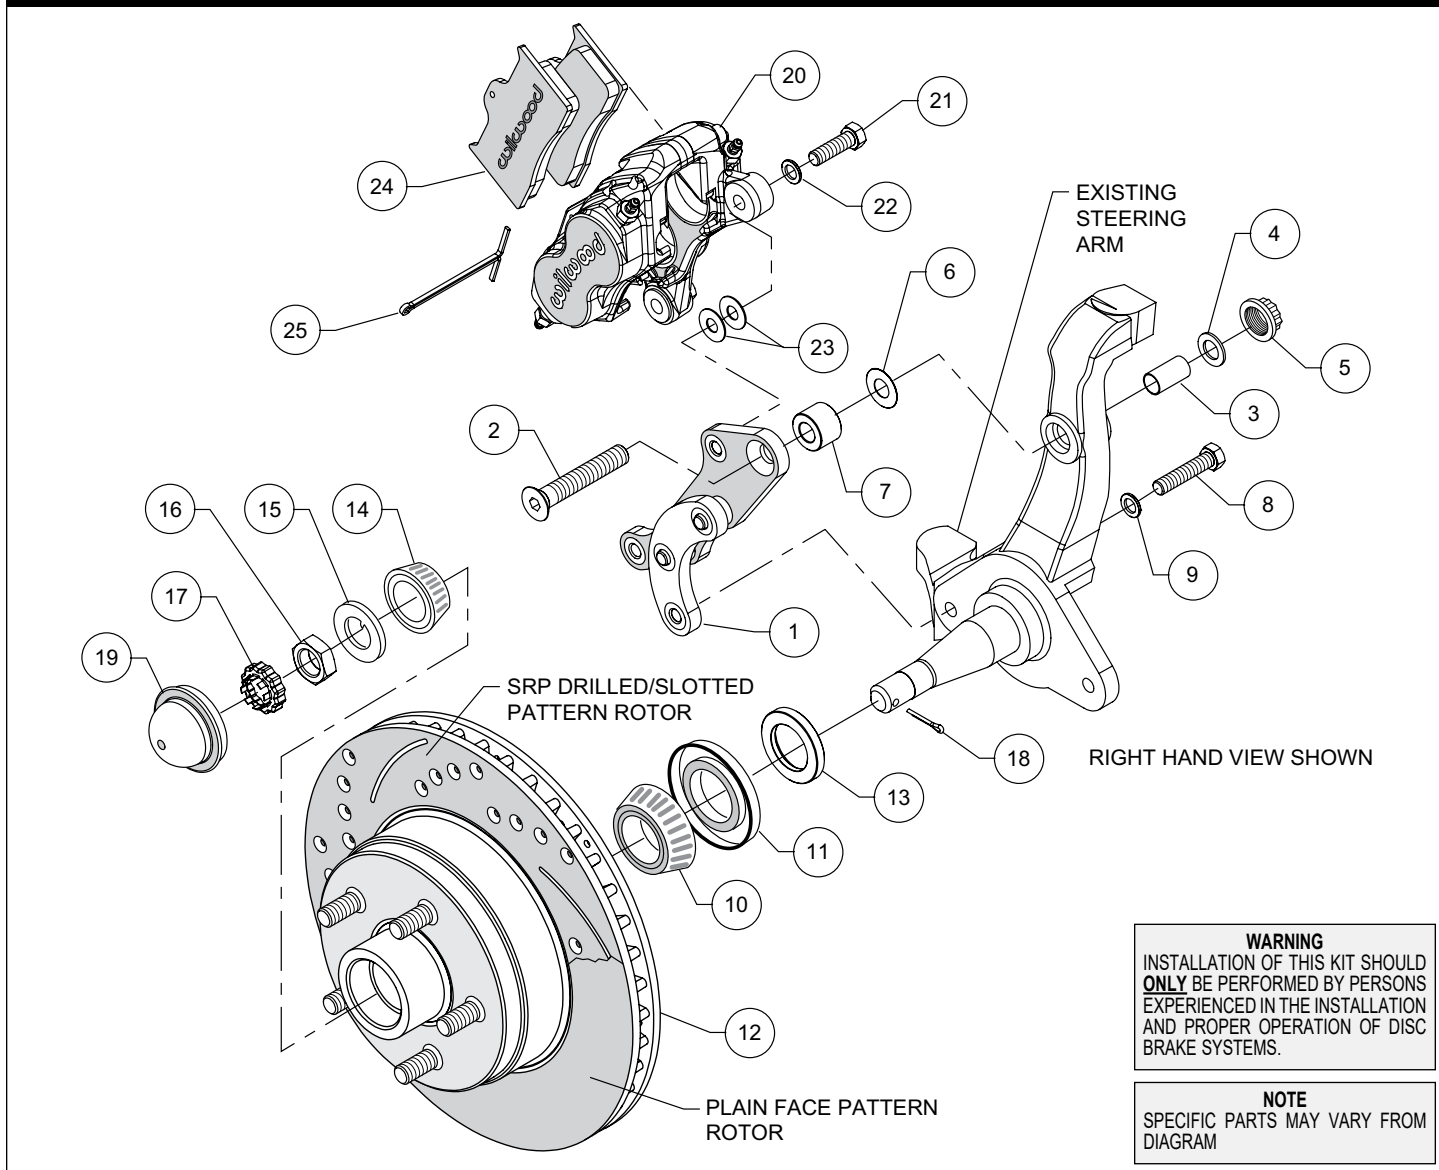
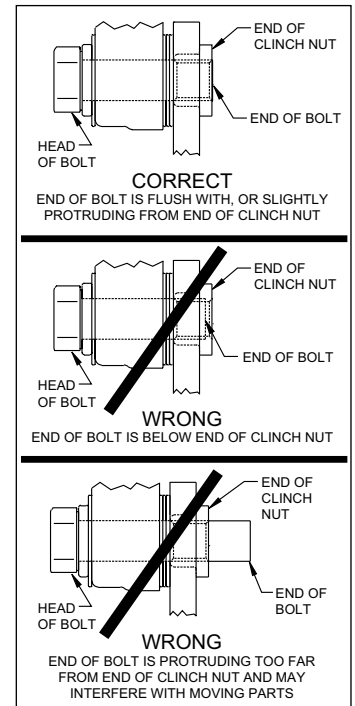

Figure 1. Typical Installation Configuration
Figure 3. Clinch Nut Engagement Diagram
NOTE: Numbers in parenthesis refer to the parts list and Figure 1 on the preceding pages.
CAUTION: All mounting bolts must fully engage clinch nuts. Be sure to check that all bolts are either flush or protruding through flanged side of clinch nut after shimming, Figure 3.
- The caliper bracket (1) should initially be installed with clean, dry threads on the mounting bolts. The bracket has been assembled at the factory for alignment purposes. Loosen the two bolts that secure the brackets together so that the bolts are hand tight only. This will enable the bracket assembly to be adjusted to accommodate various spindle tolerances during assembly. Insert sleeve (3) into top mounting hole on the spindle, Figure 1. Orient the bracket as shown in Figure 1 and install using bolt (2), washer (4), locknut (5), in the upper hole. Place a .711" thick spacer (7) positioned between the bracket and spindle, as shown in Figure 1 and Photo 1. Initially use one .032" thick shim (6) on the upper bolt between the bracket and spindle, Figure 1. Install bolt (8) and washer (9) in the lower hole, Figure 1. Temporarily tighten the mounting bolts, followed by the two bracket-to-bracket bolts.
on the upper bolt between spacer and spindle, Figure 1. Once the bracket alignment is correct, torque the upper bolt locknut to 65 ft-lb. Remove the lower bolt, apply red *Loctite*® 271 to the threads, and torque to 40 ft-lb. Remove one at a time the bolts that secure the bracket assembly to each other, apply red *Loctite*® 271 to the threads and torque to 40 ft-lb.
- Remove hub/rotor and pack the small outer bearing cone (14) with high temperature disc brake bearing grease and install into the front side of the hub (12). Slide the hub/rotor onto the spindle. Secure using spindle washer (15), and spindle nut (16). Adjust bearings per OEM specifications. Install spindle nut retainer (17) and a new cotter pin (18), Photo 5.
- Press the dust cap (19) into the hub (12), Photo 6.
- NOTE:** Please reference the caution statement at the beginning of the assembly instructions. Mount the caliper (20) onto the caliper mounting bracket (1) using bolts (21) and washers (22), as shown in Figure 1. Initially place two .035" thick shims (23) on each bolt between the caliper and the bracket, Photo 7. Temporarily tighten the mounting bolts and view the rotor (12) through the top opening of the caliper. The rotor should be centered in the caliper, Photo 8. If not, adjust by adding or subtracting shims between the bracket and the caliper. Always use the same amount of shims on each of the two mounting bolts. **NOTE:** The end of each bolt must be flush with or slightly protruding from the head of the clinch nut, as shown in Figure 3. If necessary place spare shims between washer (22) and caliper mounting ear to achieve the proper clinch nut engagement. Once the caliper alignment and clinch nut engagement are correct, remove the bolts one at a time, apply red *Loctite*® 271 to the threads, and torque to 40 ft-lb.
- Install the disc brake pads (24) into the caliper, with the friction material facing the rotor (12), Photo 9. Secure in place using cotter pin (25), Photo 10.